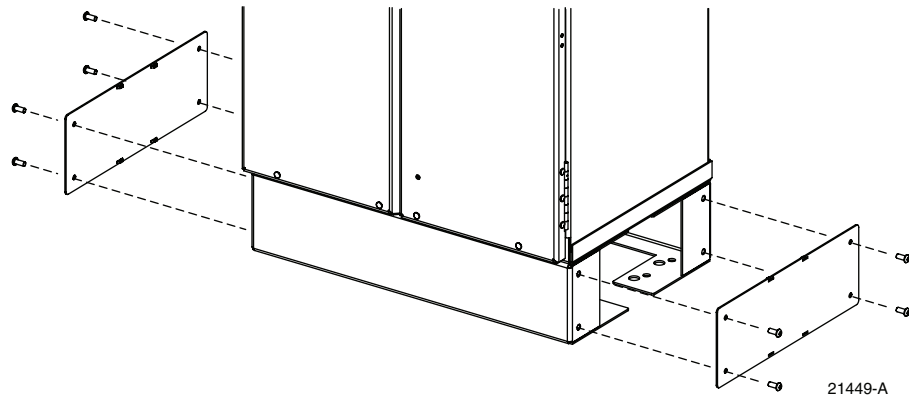

Figure 13. Removing Access Covers From Sides of Ground Spacer/Riser
1. Use a 3/16-inch security hex-head wrench to remove the screws that secure the access covers to the left and right sides of the cabinet ground spacer/riser as shown in Figure 13.